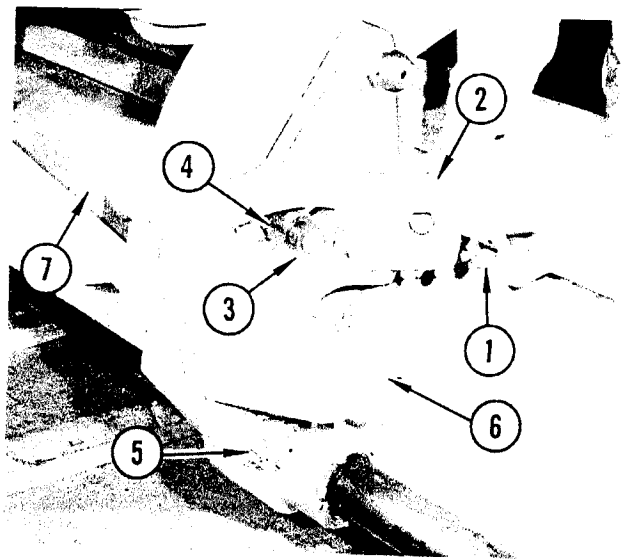

FIGURE 18. TILT PLATE REMOVAL
Refer to Figure 18. Remove hex nut (1) and tilt washer (2). Remove shim (3) and tilt roller (4). Remove cotter pin and slotted nut (5). Remove cylinder ball cap (6). Remove capscrews and lockwashers from each upper corner of cylinder shield (7) and remove shield.